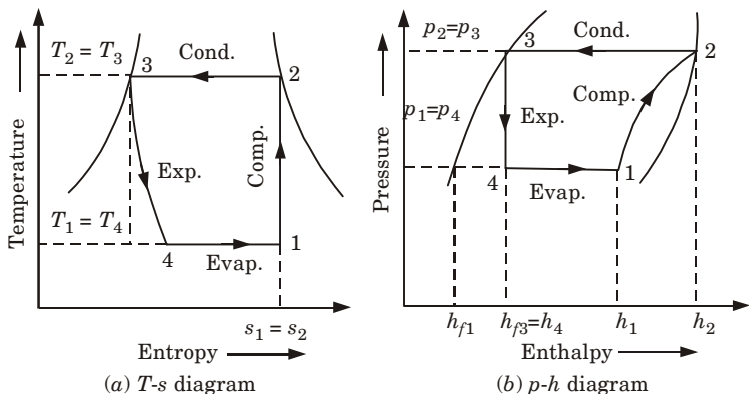

Fig. 13. Theoretical vapour compression cycle with dry saturated vapour after compression.
1. The four process of the cycle is shown on T - s and p - h diagrams in Fig. 13(a) and (b).